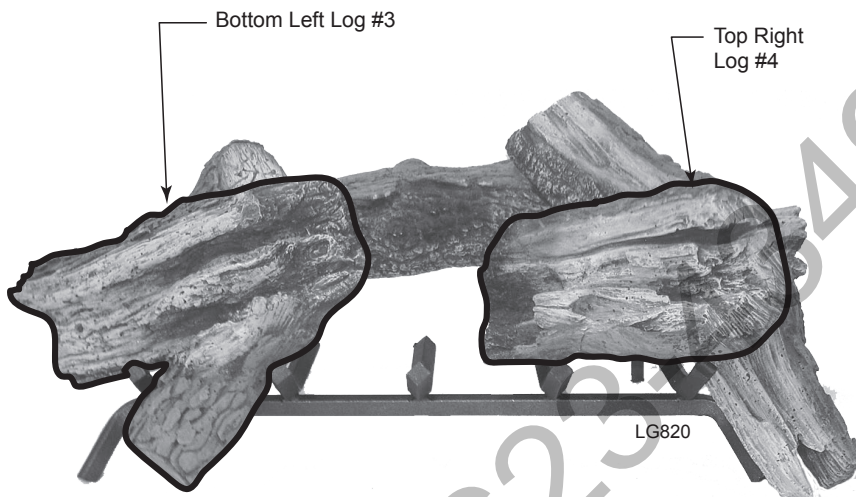

Figure 51 - Place Bottom Left Log #3 and Top Right Log #4
3. Place Top Right Log #4 on Bottom Right Log #2 resting on grate. *Figure 51*
4. Place Bottom Left Log #3 on grate. The "V" of the log should straddle the end grate bar. *Figure 51*